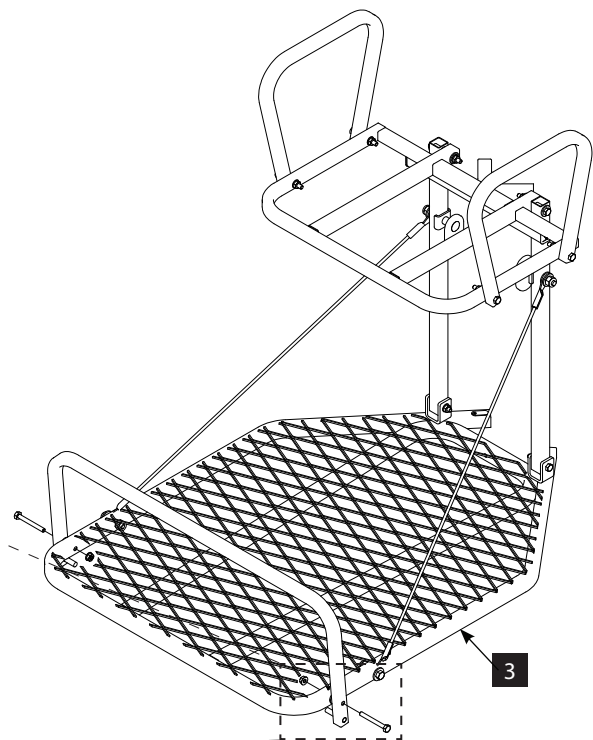

FIGURE 4
4. Attach the footrest (6) onto the platform (3) using two 1/4-20 X 2-1/4 IN bolts (15), two plastic washers (9) and two 1/4-20 nuts (16). **SEE FIGURE 4.**